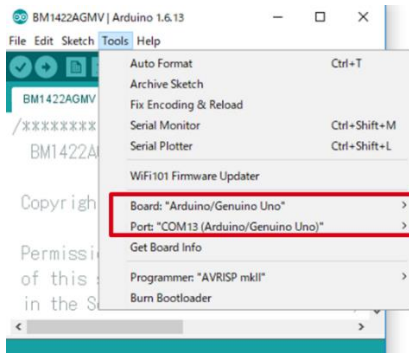

Figure 4. COM Port setting
1. Select [Tools] and check the contents enclosed in the red frame. (Figure 4) Board should be "Arduino/Genuino Uno" and Port should be COMxx (Arduino/Genuino Uno). COM port number is different in each environment.